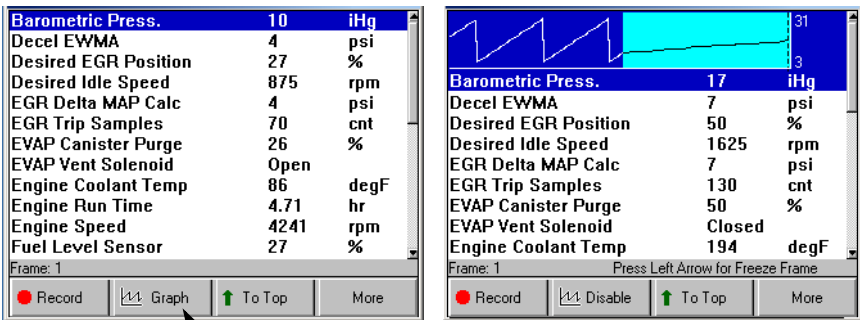

Figure 2.6: Graph / Digital Display Function
- When a line is displayed as Digital, its reading is a word or a number, as shown for all the lines in the screen on the left side in Figure 2.6.
- When a line is displayed as a Graph, its reading is a line graph as shown for the top line in the screen on the right side in Figure 2.6. The graph has a past activity section and a magnified live activity window. The minimum and maximum measurements appear to the right of the graph and the digital reading is below the graph. You can use the Left and Right Arrow keys to move the magnified window through the data. Refer to "Freeze Frame" on page 13.